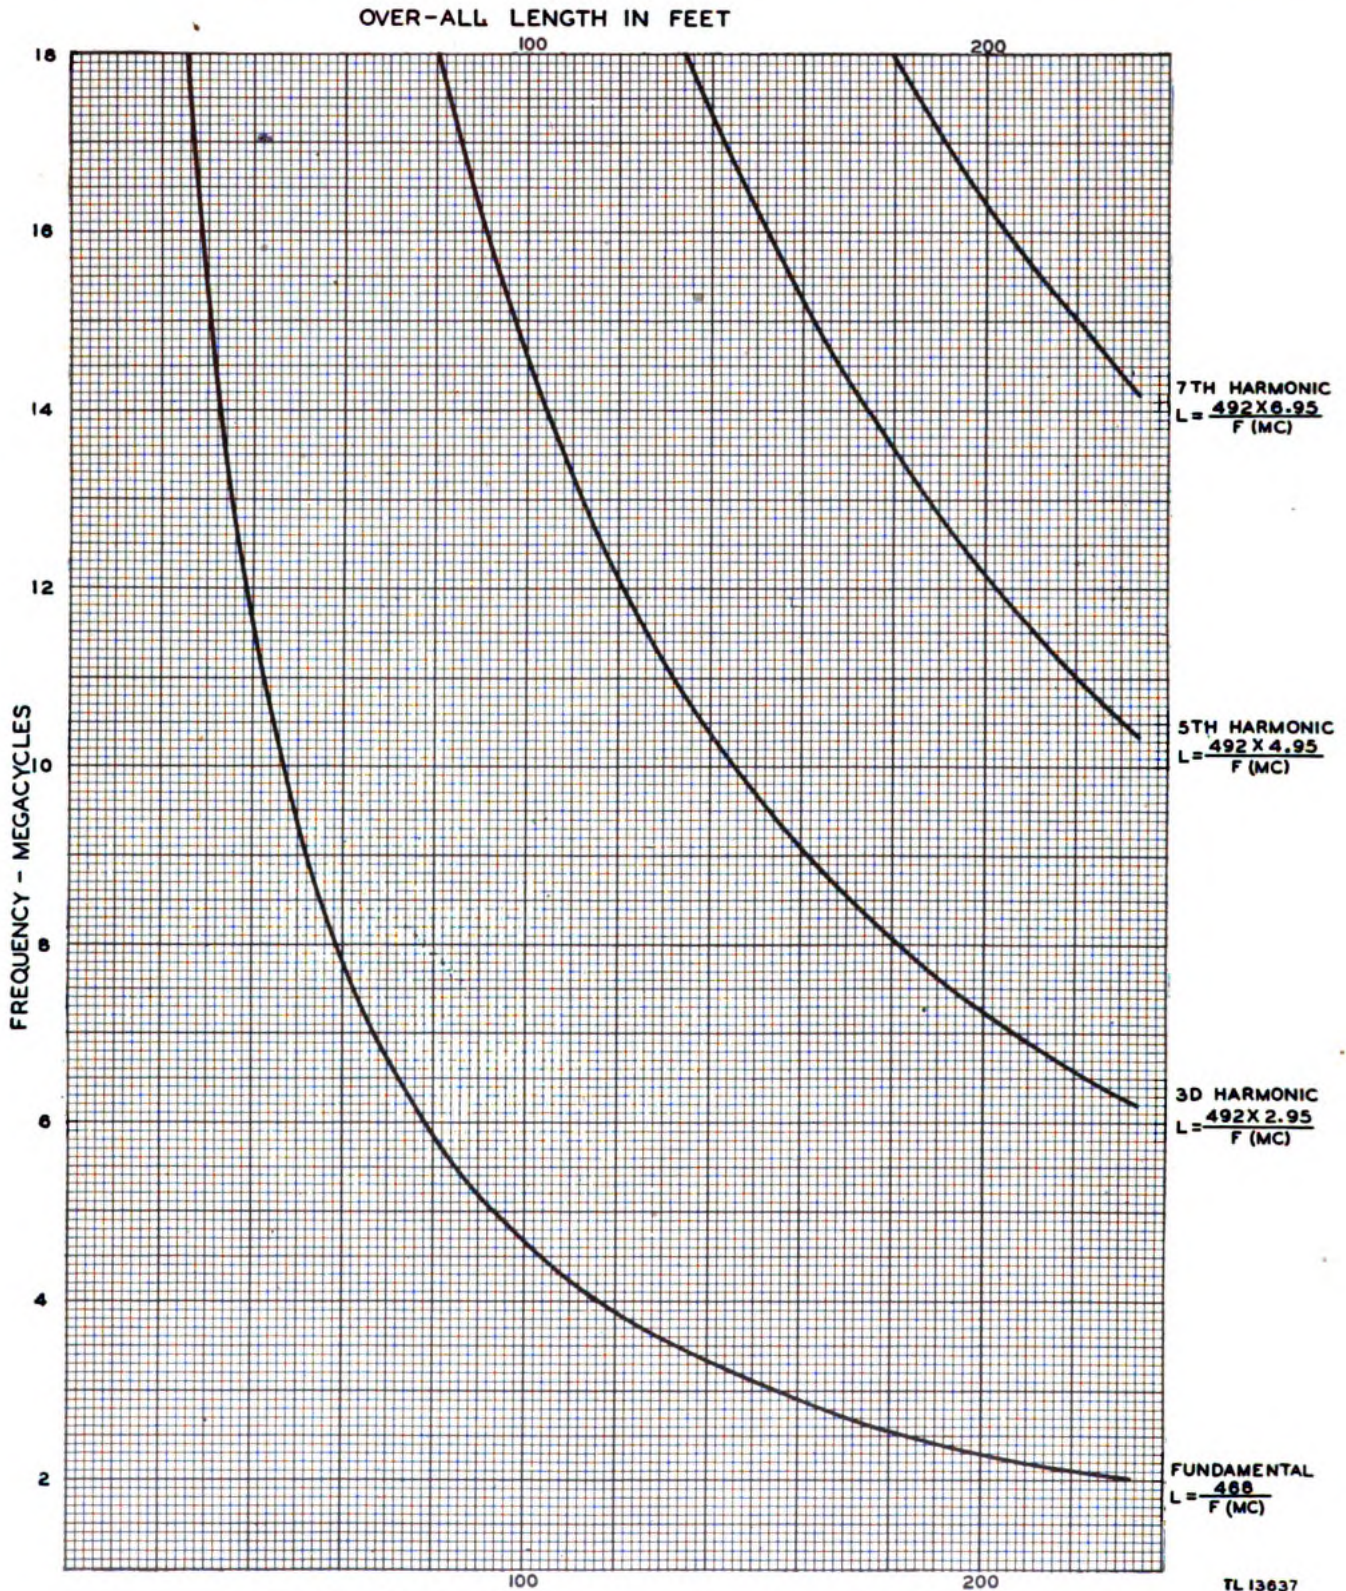

Figure 15. Radio Set AN/MRC-1—frequency vs. length chart of doublet antenna.
a. Antenna System AS-95 ()/MRC-1 is a half-wave doublet designed to operate on the fundamental frequency or any odd harmonic of the fundamental frequency. Figure 15 is a graph of frequency plotted against length showing the fundamental, third, fifth, and seventh harmonics.
b. By referring to figure 15, select the proper antenna lengths for the operating frequencies to be used when transmitting.
Note. See figure 15 for formulas to calculate harmonics.